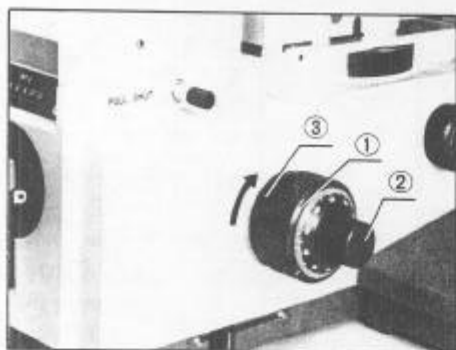

Fig. 27
- 1) Bring the objective as close as possible to the specimen without touching and focus on the specimen roughly by means of the coarse adjustment knobs ①, then fine focus with the fine adjustment knobs ②. (Fig. 27)
While the coarse adjustment motion is normally stiff and heavy, it is freely adjustable for either heavy or light movement depending on the observer's preference. To adjust the tension, rotate the tension adjustment ring ③ in the direction of the arrow to tighten the coarse adjustment knobs. (Fig. 27)